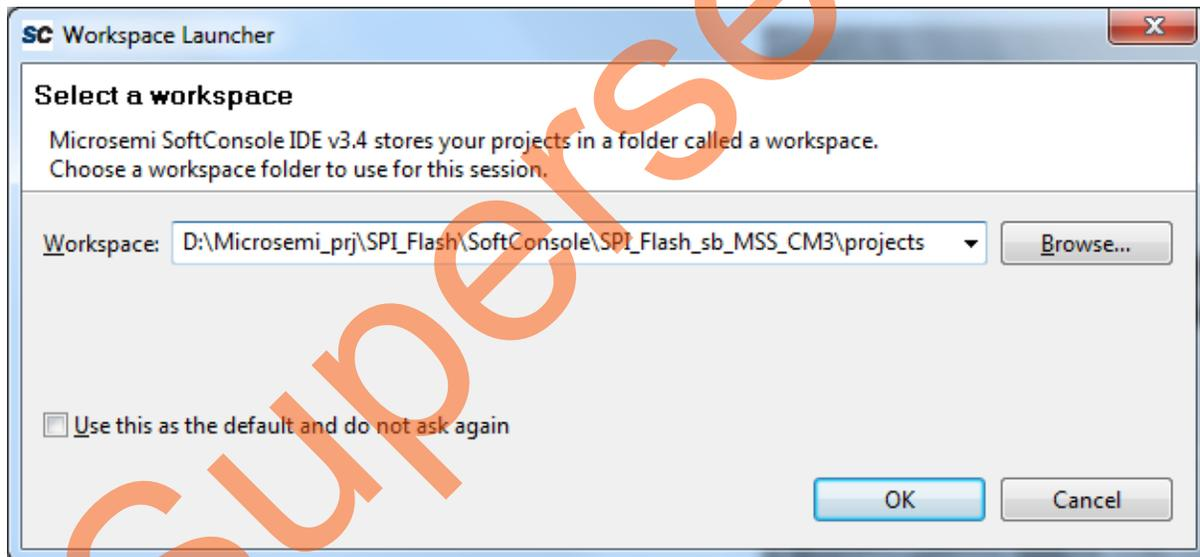

Figure 19 • Invoking SoftConsole
2. SoftConsole **Workspace Launcher** window is displayed. Browse to the SoftConsole Project in the Libero Project folder as shown in Figure 19.